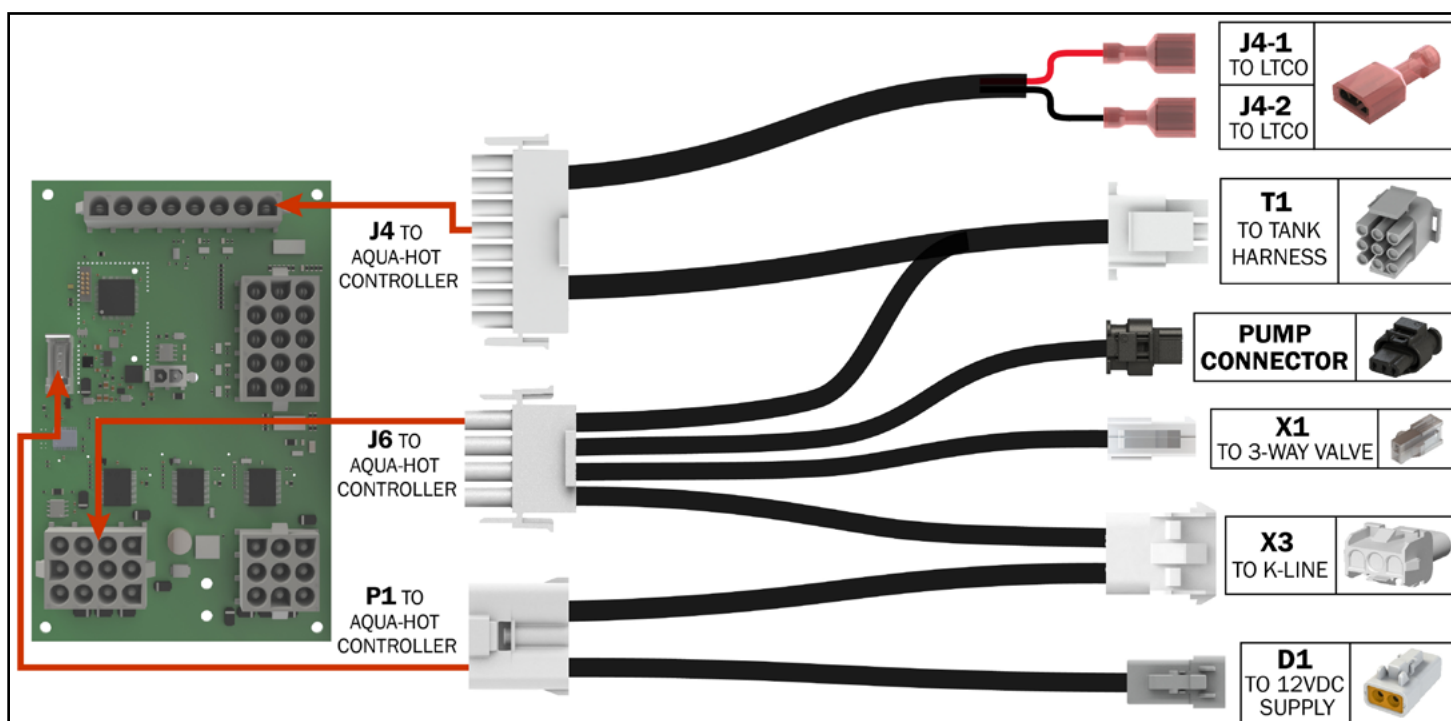

Figure 48
1. Refer to Figure 48 for harness installation.